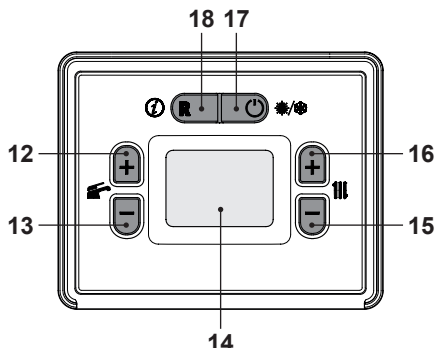

Fig. 10.1
- By using buttons 15 or 16 (Fig. 10.1) it is possible to modify the value of parameter A51 from **1** to **52** weeks (**52 = 1 year**).
- Press 12 or 13 (Fig. 10.1) to confirm the value entered and return to the list of parameters (Fig. 10.2).
- By using buttons 15 or 16 (Fig. 10.1) it is
- Press 12 or 13 (Fig. 10.1) to confirm the value entered and return to the list of parameters (Fig. 10.3).
- Press the 17 button (Fig. 10.1) to exit "programming mode".